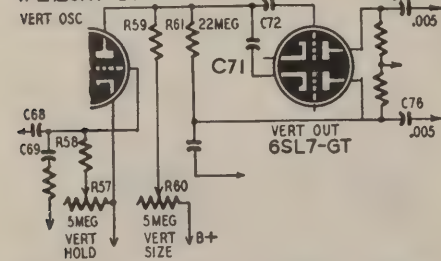

Fig. 4—Causes for vertical troubles.
**TS-18.** Poor vertical linearity. Defective 6SL7-GT vertical output. Defective 22-meg feedback resistor R61 (vertical output to vertical oscillator). (Fig. 4.)
**Loss of vertical sync.** (Not corrected by adjustment of vertical hold control or replacement of vertical oscillator and amplifier tubes). Check value of 1,000- $\mu$ f grid capacitor C69. (Fig. 4.)
tor C71. Failure of vertical hold or vertical size controls R57 and R60. (Fig. 4.)
**Insufficient height.** Defective 6SL7-GT vertical output tube. Defective vertical size control R60. Open h.v. coupling capacitors C75 or C76 (.005 $\mu$ f, 6,000 v.) from vertical amplifier plates. Shorted 250- $\mu$ f r.f. filter capacitor C77. Shorted ballast tube, causing excessive heater voltage on vertical amplifier. (Fig. 4.)
**Vertical jitter.** Vertical hold control needs readjusting. Defective 250- $\mu$ f vertical oscillator coupling capacitor C68. (Fig. 4.)